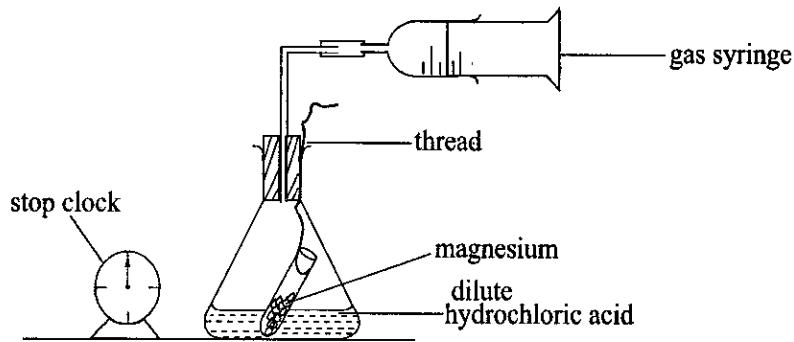
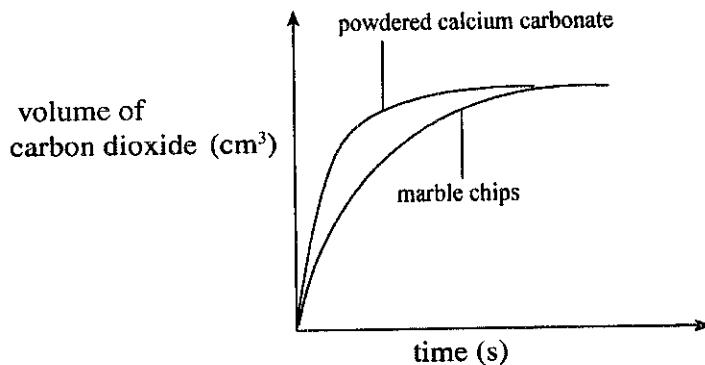

Fig 11.1 Determination of rate of reaction
Fig 11.7 Graphs of volume of carbon dioxide against time
A known mass of magnesium and a known volume of dilute hydrochloric acid in a test-tube tied with a thread, are placed in a conical flask and the experiment is set up as shown in figure 11.1. The stopper is opened for a moment so that thread is free. The test-tube drops pouring hydrochloric acid into the conical flask. At the same time, the clock is started. The volume of hydrogen in the syringe is recorded at regular intervals until the reaction is complete.
Place 100 cm³ of 0.1 M hydrogen peroxide in a conical flask. Add 0.5 g of manganese(IV) oxide to the hydrogen peroxide in conical flask. Then set up the experiment as shown in figure 11.1. record the volume of oxygen in the syringe at regular intervals until the reaction is complete. Repeat the experiment using 1 g of
Pour 20 cm³ of 1 M hydrochloric acid in a test-tube. To the conical flask add 10 g of calcium carbonate lumps and then set up the experiment as shown in figure 11.1. Record the volume of carbon dioxide in the syringe at regular intervals until the reaction is complete. Repeat the experiment using the same mass of powdered calcium carbonate. When the graphs of volume of carbon dioxide against time for both powdered calcium carbonate and calcium carbonate lumps, are plotted using the same axes, they appear as shown in figure 11.7.